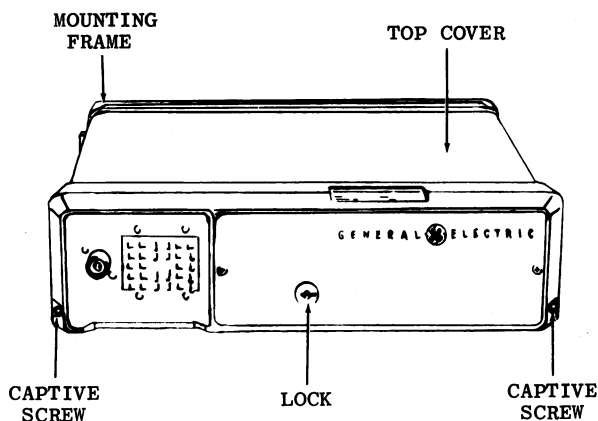

Figure 2 - Disassembly
1. Unlock the radio (see Fig. 2).
2. Loosen the two captive screws shown in Fig. 2.